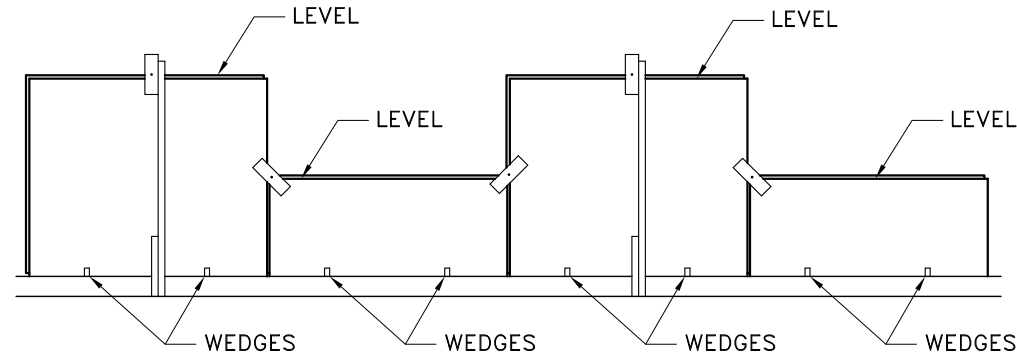

FIGURE 1
G) BRACE ALL OF THE FULL PANELS WITH APPROVED BRACING ON THE OUTSIDE FACE. THE BATTER SHOULD BE CHECKED BEFORE SECURING. CLAMP THE SMALLER PANELS TO THE LARGER PANELS. THE BASE COURSE MUST BE CLAMPED AND BRACED TO MAINTAIN ALIGNMENT AND BATTER. NO BRACING WILL BE REQUIRED ON SUBSEQUENT COURSES. SEE DETAILS IN FIGURE 1.